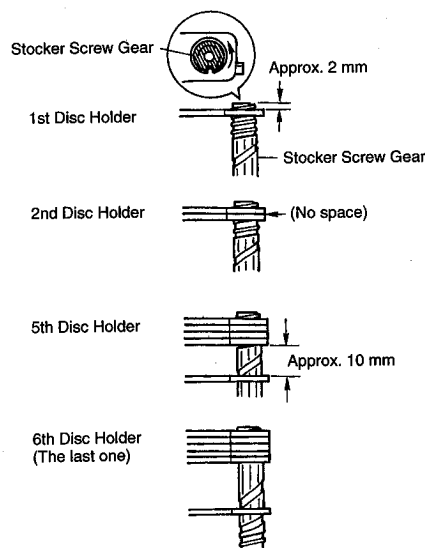

Fig. 2.10.2
- (1) While turning the four Stocker Screw Gears little by little in turn, insert each Disc Holder one by one.
- As shown in Fig. 2.10.2, leave space of approx. 2 mm (approx. equivalent to the Disc Holder's thickness) at the free end of the Stocker Screw Gears.
- Insert the Disc Holders without space between them. When you try to insert the 5th Disc Holder, the first one will apart approx. 10 mm as shown in Fig. 2.10.2.